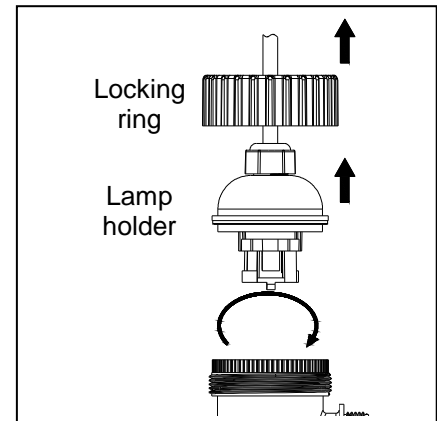

Fig. 9
9. Rotate the locking ring counterclockwise to remove the lamp holder. Fig. 9